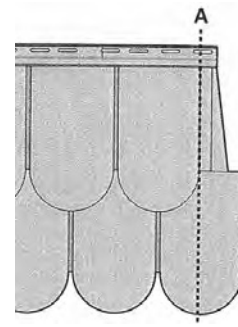

Fig.10
- Cut the first Panel at "A" ( See Figure 10).